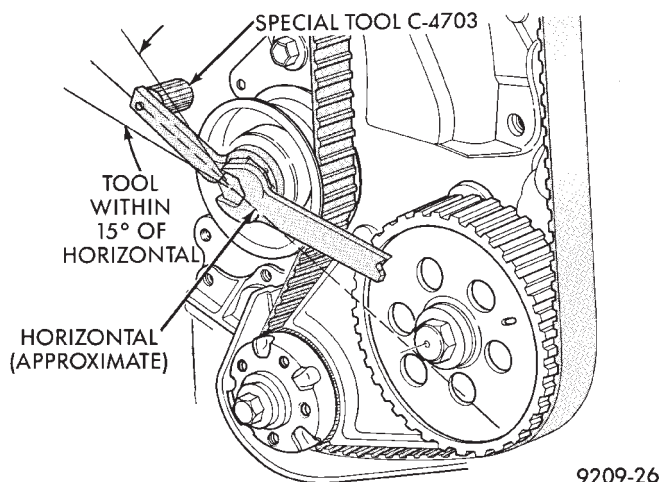

Fig. 13 Adjusting Drive Belt Tension
(5) Rotate crankshaft till number 1 cylinder is at the TDC position.
(6) Put belt tension Special Tool C-4703 horizontally on large hex of timing belt tensioner pulley and loosen tensioner lock nut.
(7) Reset belt tension Special Tool C-4703 index if necessary to have axis within 15° of horizontal. (Fig. 13).